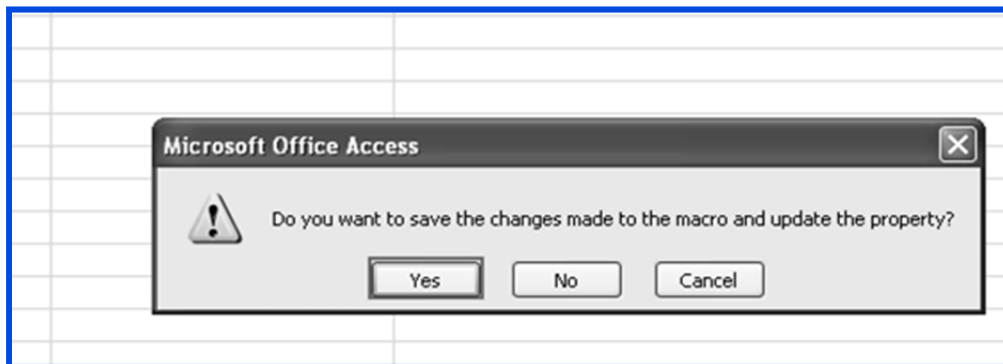

Fig. 4.2.36: Confirm to Save the macro
12. A message box appears prompting to save the *macro* created, as displayed in Fig. 4.2.36. Click Yes to save the *macro*.
9. Click *Design -> Close -> Close* to save and close the *macro*. A *message box* appears prompting to save the *macro* created, as displayed in Fig. 4.2.36. Click *Yes* to save the *macro*.